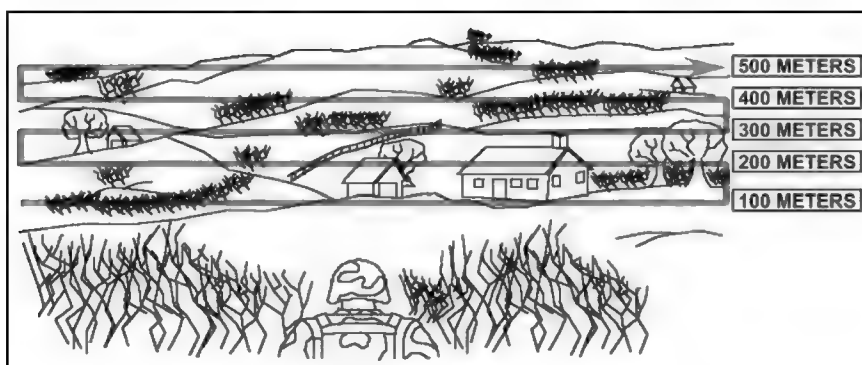

Figure 4-21. Slow/rapid scan.
c. **Scan for Targets.** The gunner must scan his sector of fire or area of surveillance at all times for the enemy. The scanning techniques that help to detect targets quickly are rapid scan, slow scan, and detailed search. The gunner observes the following procedures in all three techniques to scan for targets effectively (Figure 4-21). The gunner:
(2) **Slow Scan.** If there are no targets detected during the rapid scan, the gunner conducts a slow scan of the sector (Figure 4-21).